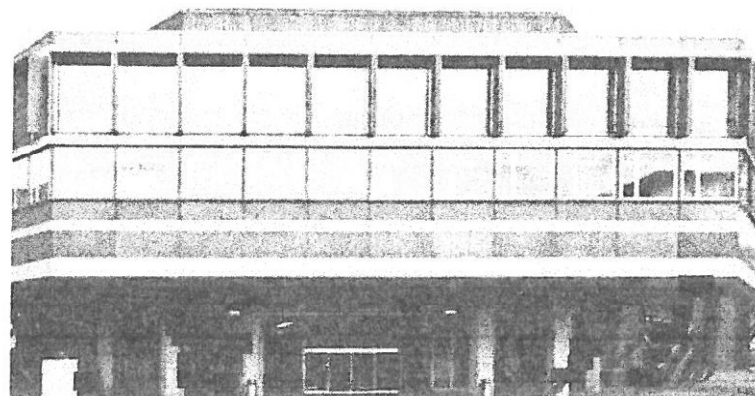

Figure 5 (b) Front façade of the auditorium
- c Figure 5 (a) shows the plan of a large auditorium building located in Zurich city of Switzerland. The building was constructed in 1971 without regard to seismic action. It includes three auditoriums with a total seating for 1200 people over a large entrance hall with access to the cafeteria. Fig. 5(b) shows the front façade of the auditorium. CO6 08
Figure 5 (a) Floor plan of an auditorium through the ground floor level (left) and through the hollow space of the support floor (right) with the locations of the centres of mass and stiffness